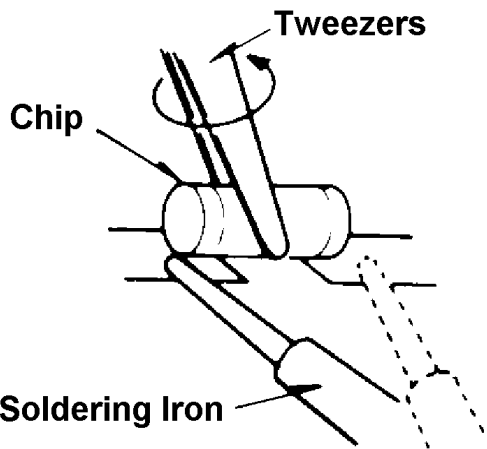

Figure 2-3, Removing Chip Components
- 2. Removing the chip component (Fig. 2-3):